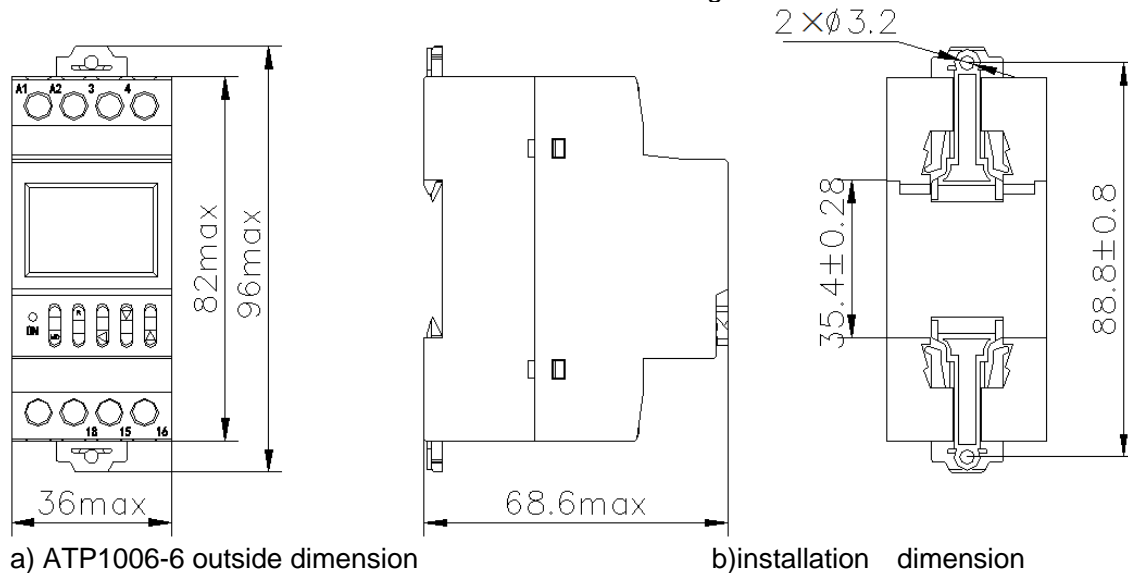

Figure 1 Outside dimensions and installation dimensions of ATP1006-6
3.1 Outside dimension and installation dimension see Figure 1.